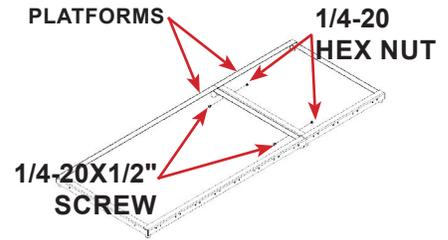

FIGURE 2.4 - Platform Attachment
- STEP 3:** Secure the platforms using 1/4-20x1/2" screw and 1/4-20 Hex Nut. See FIGURE 2.4